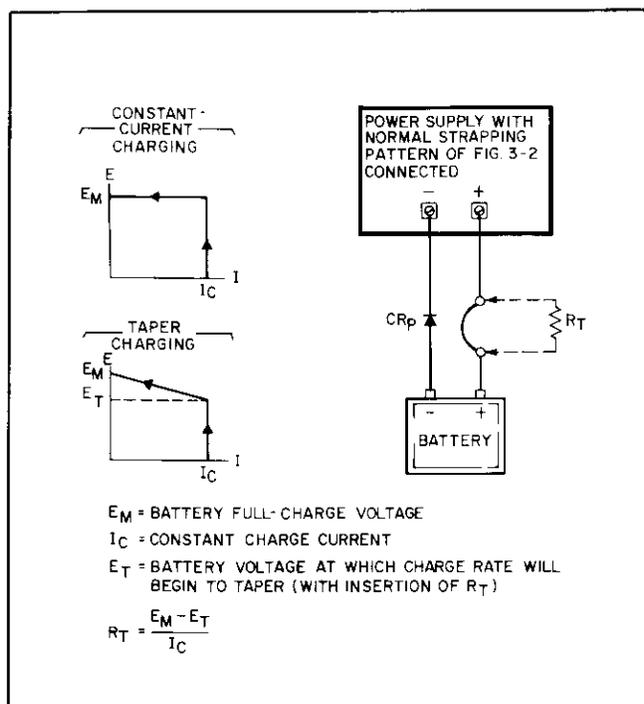

Figure 3-16. Battery Charging
Any time these supplies are used to charge a battery, be sure to install a protective diode CR_P in series with the battery as shown in Figure 3-16 to prevent the battery from discharging into the supply if the supply is turned off. Extensive damage to the supply could result if this diode were omitted.
- Connect a short circuit across the output terminals and rotate the VOLTAGE control fully clockwise (CW).
- Adjust the VOLTAGE control for an output voltage 0.7 volts greater than the desired full charge voltage. (The added 0.7 volts compensates for the drop across CR_P .) The supply may then be connected to the battery terminals, positive to positive and negative to negative as shown in Figure 3-16 (omit R_T).
3-90 Taper Charge. When charging lead-acid cells, many manufacturers recommend that the charging current be reduced as the charge nears completion. This can be accomplished by inserting a small resistance (R_T) in series with one of the load leads from the supply to the battery. (See Figure 3-16.) This resistor alters the normally rectangular charging plot in such a manner as to provide a taper charge for the last portion of the charge. The proper value for this resistor is the difference between the full charge voltage and the voltage at which the tapering is to start, divided by the initial charging current. Set the initial charging rate and full charge voltage as instructed in paragraph 3-89.